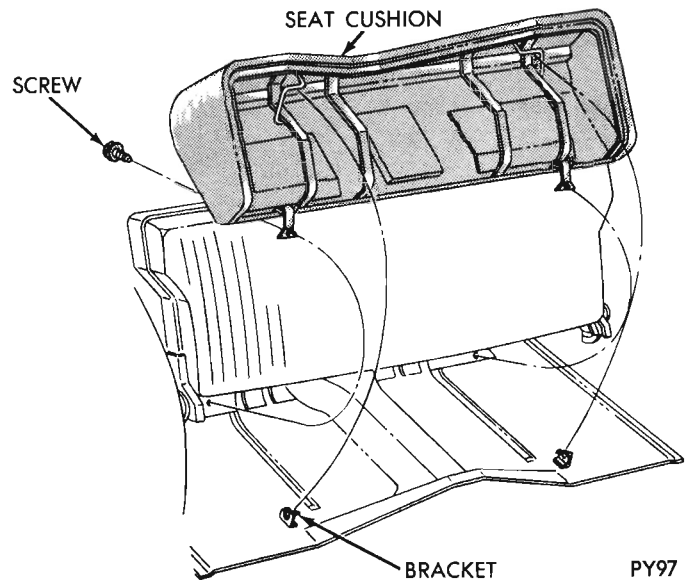

Fig. 34 - Second Seat Chshion
(1) Raise rear floor hinged panel at rear of seat cushion assembly (Fig. 34) to expose seat cushion to floor pan attaching screws.
(2) Remove screws attaching cushion to floor pan.
(3) Move cushion slightly rearward to disengage locking bars at front bottom side of cushion and remove cushion.